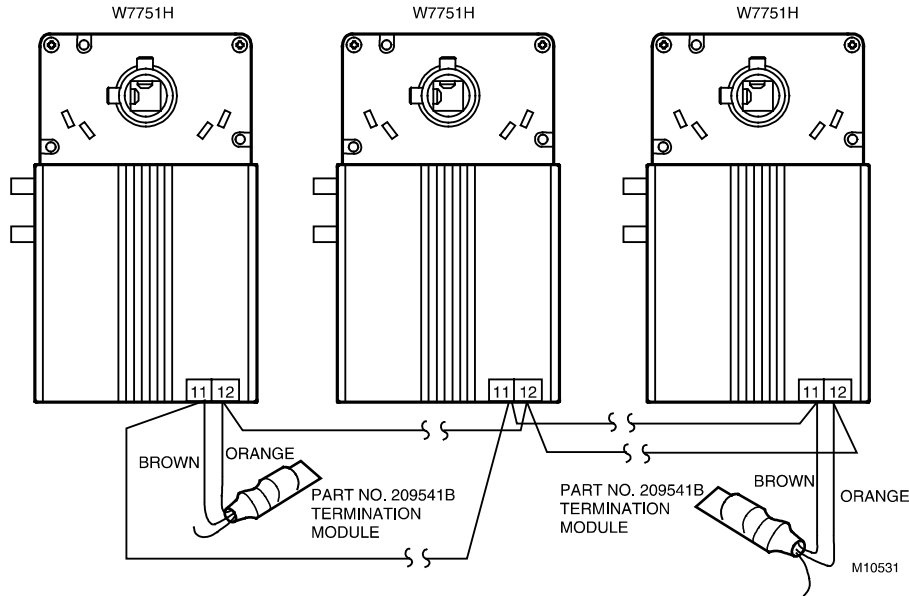

Fig. 15. Termination modules.
**NOTE:** If a 209541B Termination Module is required at a the Smart VAV Actuator, connect two of the three termination module wires to the LONWORKS® network terminals. Selecting the appropriate two wires depends on the LONWORKS® network topology. Refer to the *E-Bus* (LONWORKS® network) *Wiring Guidelines*, form 74-2865, and the *Excel 10 FTT Termination Module Installation Instructions*, form 95-7554. For example, using a doubly terminated daisy-chained bus topology, if devices are on either end of a LONWORKS® network wire run, mount the termination module on the appropriate terminals as shown in Fig. 15.